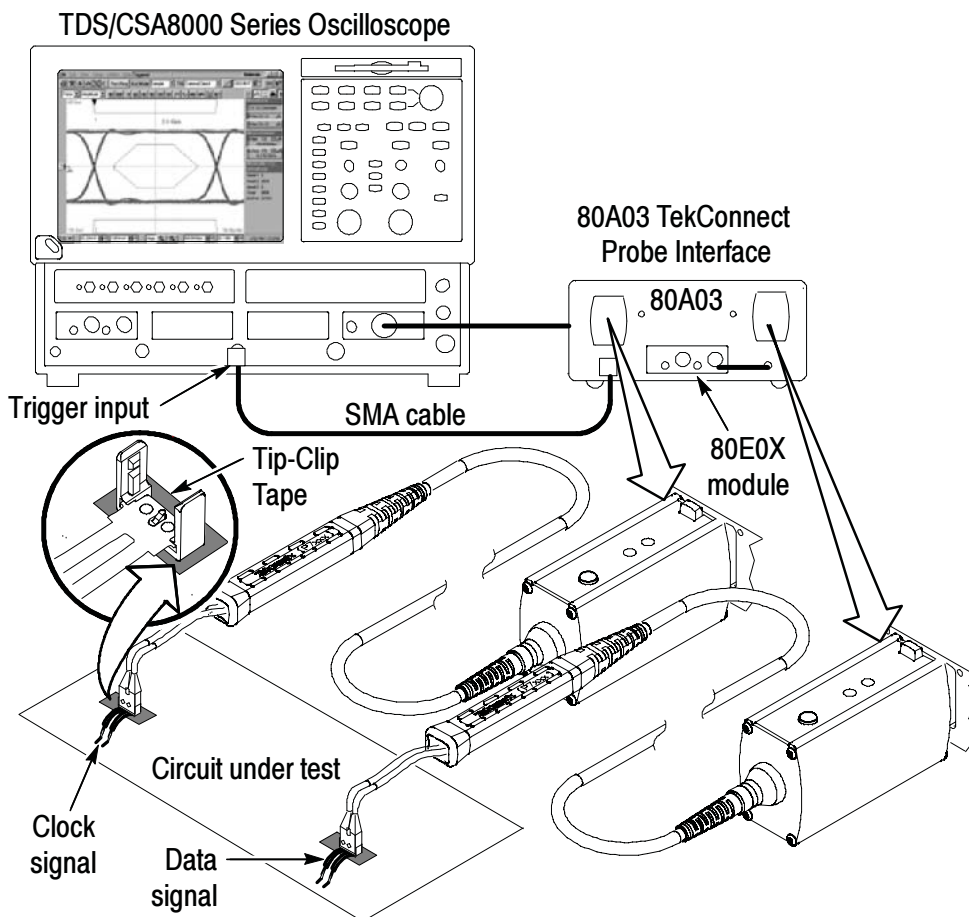

Figure 21: TDS8000 sampling oscilloscope
- Connect one channel of the 80A03 to probe a clock that is source synchronous to the signal to be measured, to provide a trigger signal. See Figure 21.